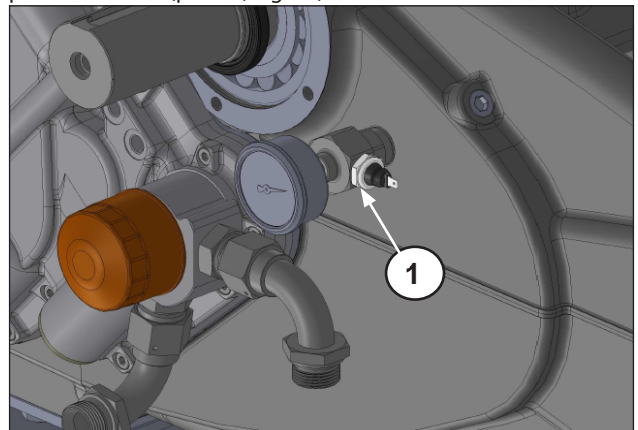

Fig. 16
Undo and remove the pressure gauge, fitting, nipple, and pressure switch (pos. ①, Fig. 16).